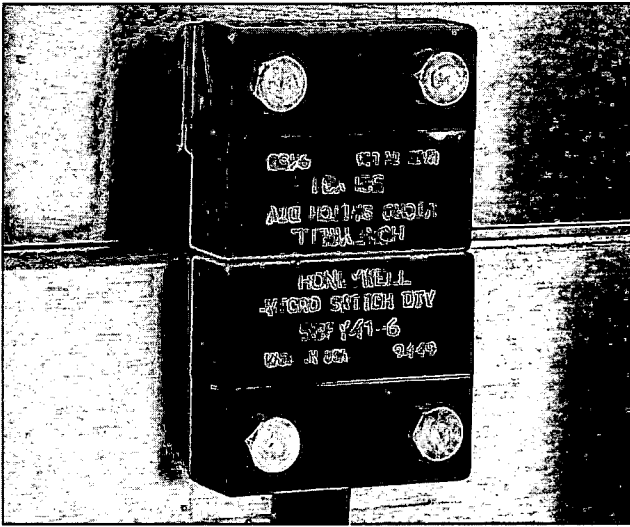

Figure 6 — Safety switch
**Safety switches** (Figure 6) are provided to prevent operation of the machine when a protective cover or guard has been removed. These switches must be checked before operating the machine and repaired or replaced if they do not work properly. Never rely solely on these safety switches. Always push the “O” (STOP) button then **disconnect and lock out the power source** before removing any part from the machine.